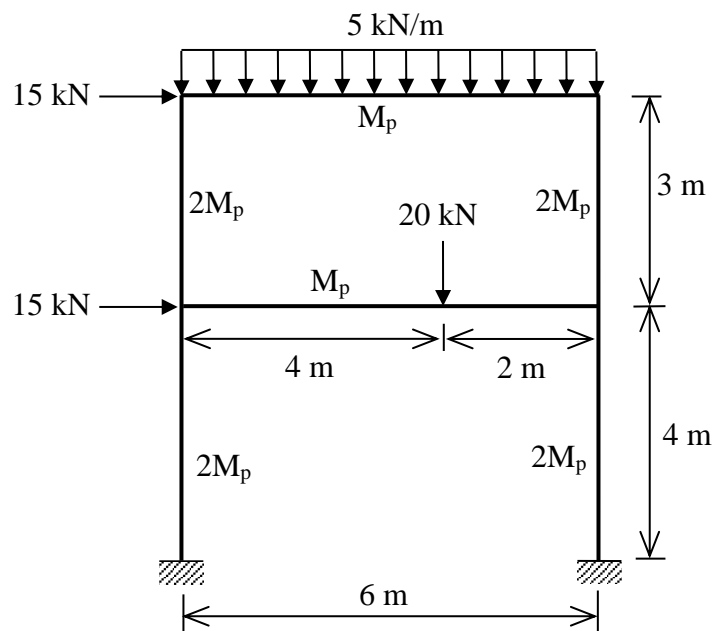

Figure 5 / Rajah 5
5. **Figure 5** shows a rigid-jointed frame to carry the working loads. If the collapse load factor is to be 1.4, determine the required plastic moment capacity (M_p) for all independent mechanisms and any five combined mechanisms.